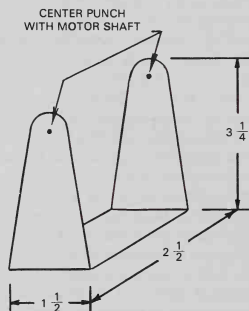

Fig. 18-39. The motor frame.
6. The motor frame is made with 16 ga. aluminum bent in a U-shape, Fig. 18-39. The armature is placed in position between the uprights of the bracket. Lay the bracket on its side on the bench and hit it a blow with a hammer. The cone-shaped points